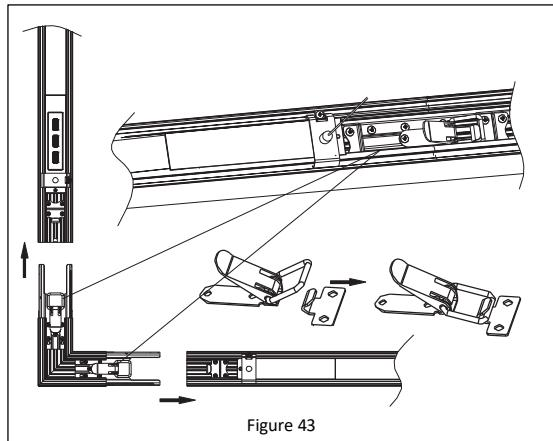

Figure 43
- Insert the "L" connector into the fixture and hook the latch to splicing bracket B, then pull the lock buckle to secure the fixtures together. **See Figure 43.**